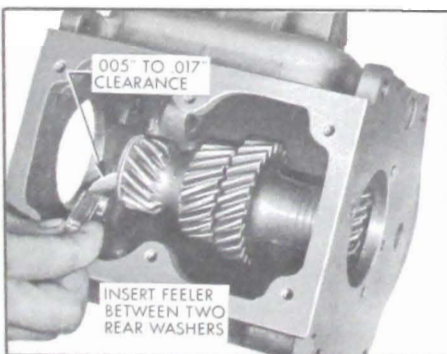

Figure 4-32—Checking End Clearance of Counter Gear
5. Check end clearance of counter gear using feeler gauge between two rear thrust washers. Limits are $.005$ " - $.017$ ". Replace thrust washers if clearance is found to be excessive. See Figure 4-32.
7. Insert first-reverse shift shoe into first-reverse shift shaft and install main shaft and bearing through rear bearing bore in transmission case. As shaft is being installed: (1) slide first-reverse gear onto splines with groove on gear toward front, (2) slide second speed gear on shaft with extended portion toward front, (3) with rear blocking ring in position, slide synchronizer